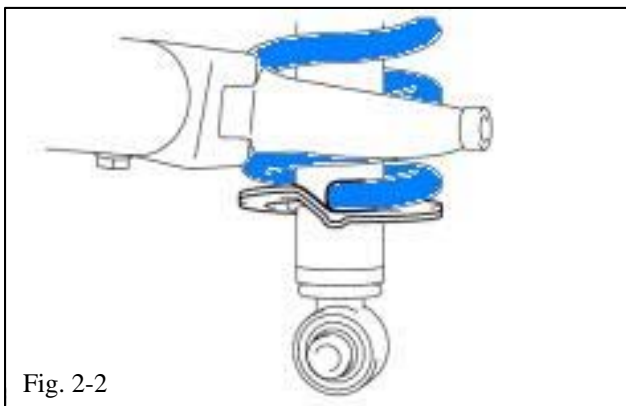

Fig. 2-2
- (c) Fit the rear coil spring end into the recessed part of the rear lower shock absorber seat (Fig. 2-2).
- (d) Turn the spring seat so that the lower end of the coil lines up with the shock absorber mount eye (Fig. 2-2).